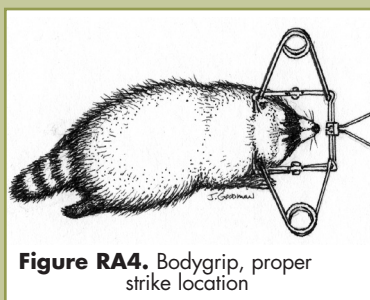

Figure RA4. Bodygrip, proper strike location
- Bodygrip trap should be placed so that the rotating jaws close on either side of the captured animals neck (Figure RA4)